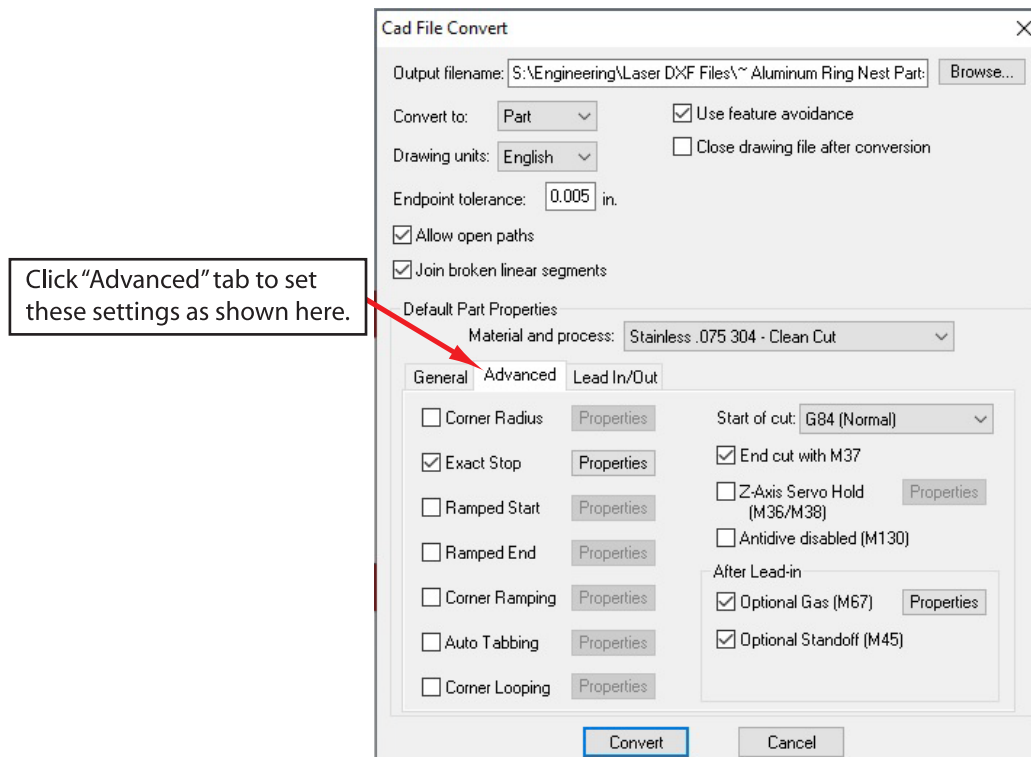

Fig.24
- 29) Now select the “Advanced” tab and set your settings to the same as shown in Fig.24 below.